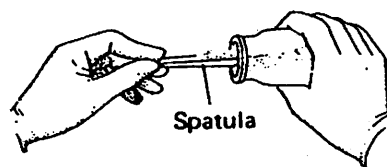

Figure 1-3
1. Solids are usually kept in wide-mouthed bottles. A porcelain or plastic spoon (or spatula) should be used to dip out the solid. See Figure 1-3.